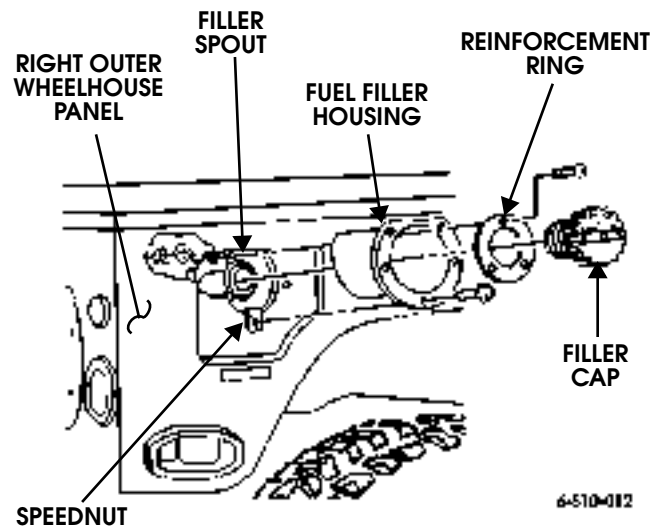

Figure 10-123: Fuel Filler Housing Auxiliary Fuel Tank
2. Remove filler cap from filler spout (Figure 10-123).